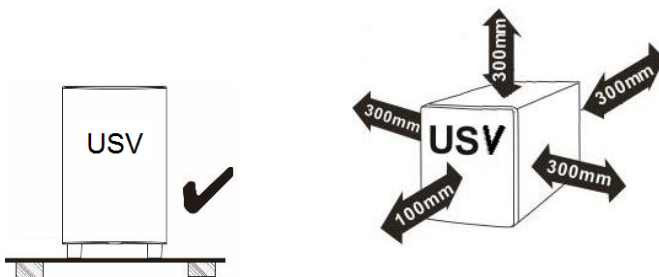

Fig. 5-1 The complete MTX series is suitable for installation as a tabletop or standing device (TOWER).
- Observe the prescribed vertical standing installation position (see Fig. 5-1);